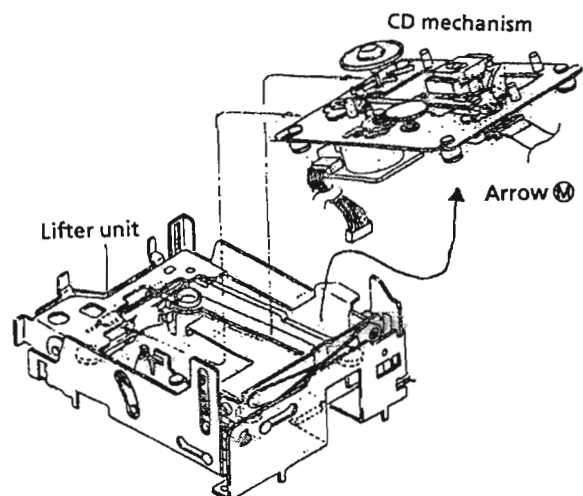

Fig. 2-12
2. Lift the CD mech. ass'y toward the direction ③ to remove it from the lifter unit. (See Fig. 2-12.)